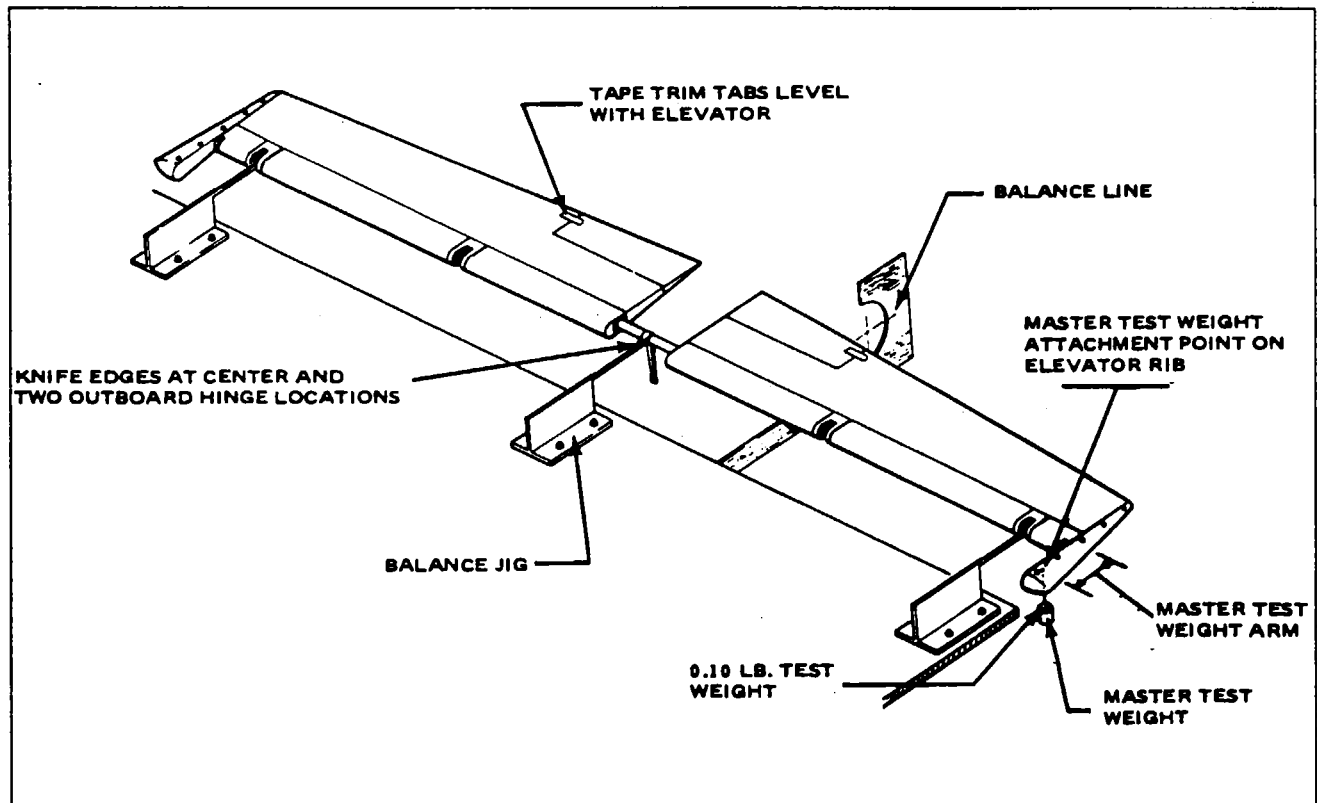

Figure 4-11: Checking Elevator Balance
4-83a. ELEVATOR BALANCING PROCEDURE. (Serial Nos. 31P-1 to 31P-7400219 incl. and 31P-7400228 to 31P-7530012 incl.) (Refer to Figure 4-11.)
4-83b. ELEVATOR BALANCING PROCEDURE. (Serial Nos. 31P-7400220 to 31P-7400227 incl. and 31P-7530013 and up.) (Refer to Figure 4-11.)
4-84. ELEVATOR CONTROL SYSTEM FRICTION MEASUREMENT. (Refer to Figure 4-11 a.) The complete control system including Autopilot, if installed, must be checked to determine the total friction. The system must be rigged to its proper travels and cable tensions prior to determining the total friction.
- b. Attach a spring scale to the inboard trailing edge of the elevator, outboard of the tab as shown in Figure 4-11 a.